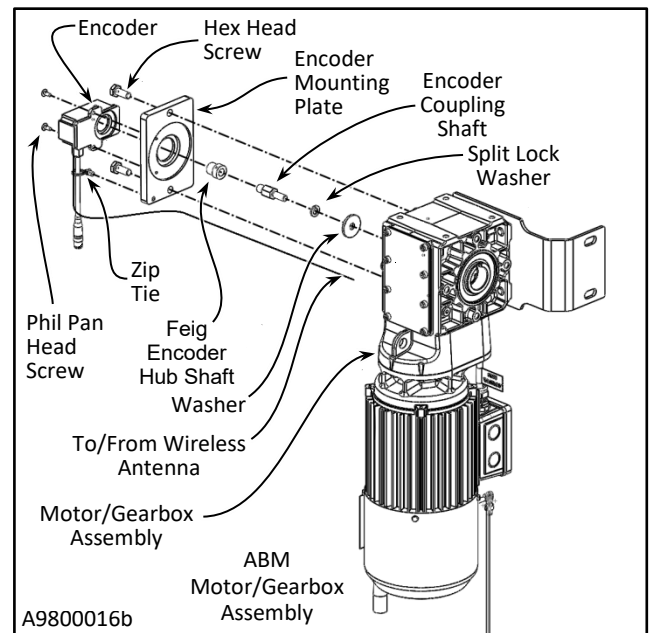

Figure 25
2. Install encoder mounting plate with encoder using two(2) M10-1.5 x 20 mm hex head cap screws.
4. Install plastic zip tie into the threaded hole in encoder mounting plate and secure the encoder cable. (See Figure 25)